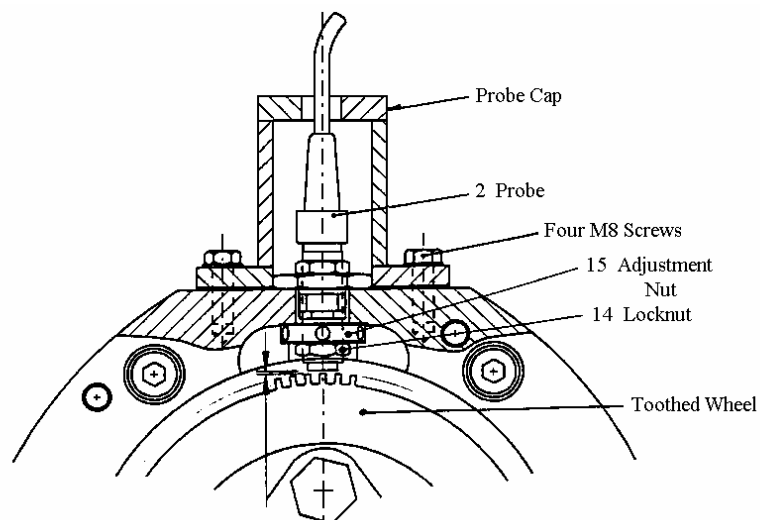

Figure 3: BR WSP Probe Details - Revised Design
- 3.1.5 Revised design (see Figure 3). Remove the probe bottom locknut (14) and adjustment nut (15). Remove the probe (2) and temporarily refit the locknut and adjustment nuts.